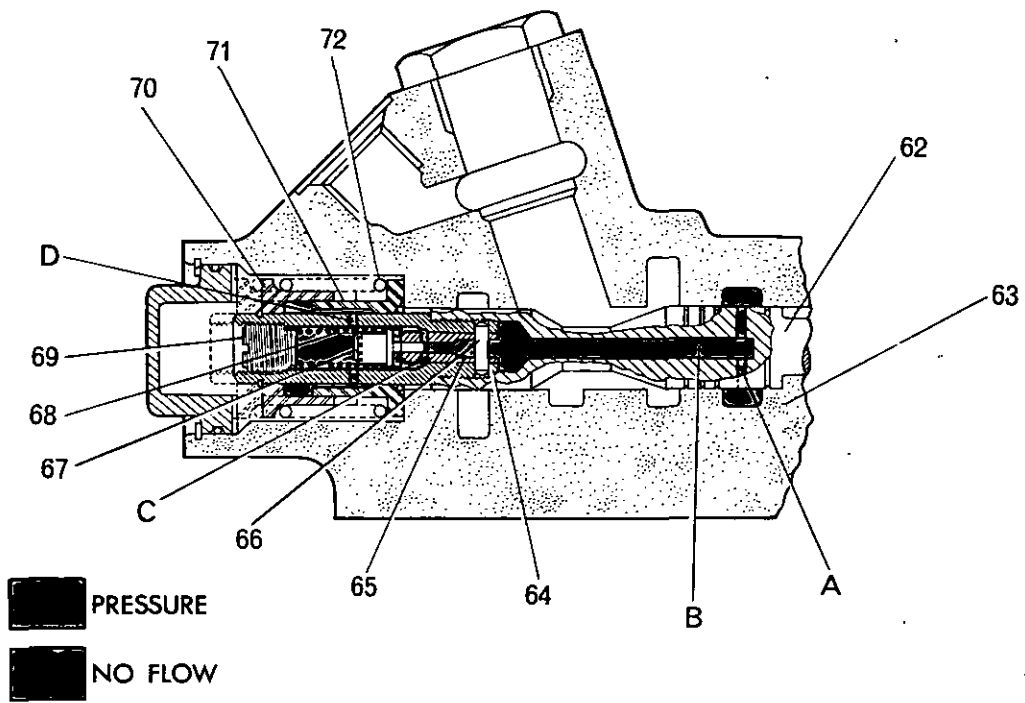

FIG. 9
Fig. 9. To prevent excessive exhausting of the circuit pressure relief valve, the Wooster spool valve incorporates a mechanism which returns the spool and actuating lever to the neutral position when a pressure of 140,5 Kg/cm2 (2000 lb/in2) is reached. The mechanism is as follows:—
Fig. 9. When the spool actuating lever is moved from the neutral position to either the raising or lowering position, oil is directed by the spool to various parts and galleries within the valve which determine whether lifting or lowering will occur. When the spool is moved the cross drilling (A) will always align with the port receiving oil from the hydraulic pump(s). Oil flows down the cross-drilling (A) along the spool centre bore (B) and into the valve guide (65). If the pressure is sufficient, it will lift the poppet valve (67) off its seat, against the pressure spring (68) and allow the oil to flow through the cross-drilling (D) into the annular chamber between the sleeves (70 and 71) where it can go no further. The pressure of oil will now continue to increase until the combined force of the oil pressure and the outer spring (72) force the left hand sleeve (70) back into the extended position (shown dotted) thus moving the spool and actuating lever back into the neutral position.
Figure 9 shows the spool set in the raising position. The action when lowering is generally similar, except that the left hand sleeve remains in its original position, and the right hand sleeve moves with the spool.